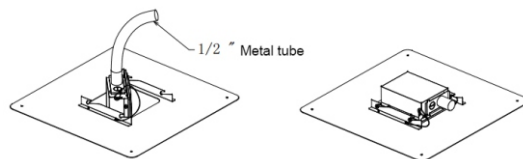

Figure 5
6. Through the square hole from the plate, slide the bolt on the lamp to the end of the chute. (Figure 5)